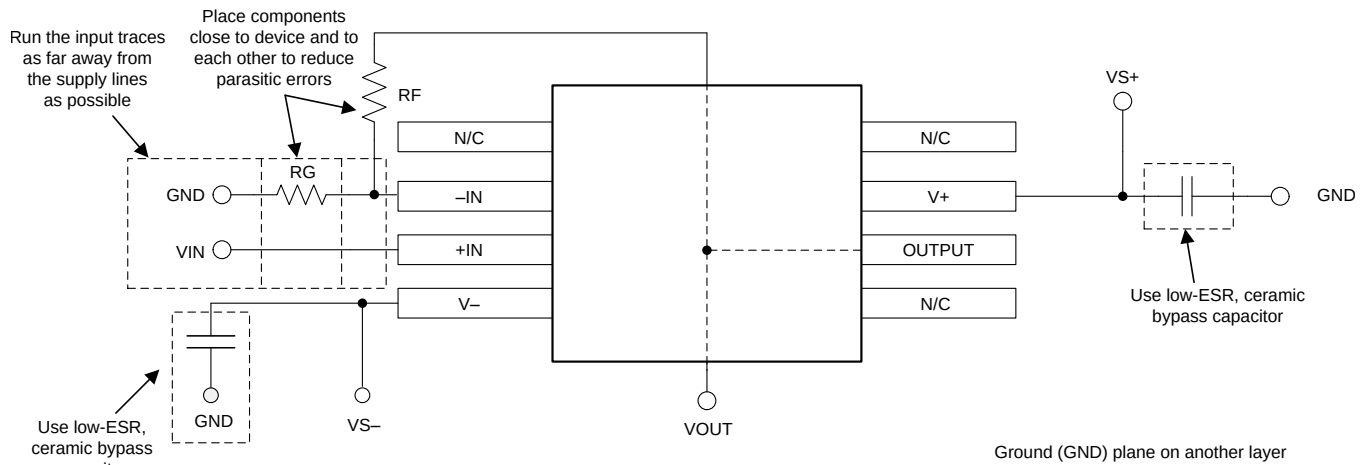

图 67. Operational Amplifier Board Layout for Noninverting Configuration
- Place the external components as close to the device as possible. As shown in Figure 67, keeping R_F and R_G close to the inverting input minimizes parasitic capacitance.